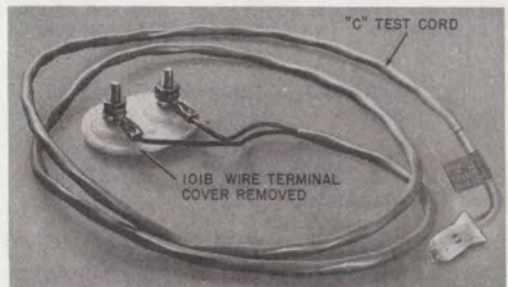

Fig. 7—C Test Cord and Terminal Block
**2.10** The C test cord (Fig. 7) is attached to a wall-mounted 101B2 wire terminal, located so the cord plug will reach all 88-type blocks, and is left in place for testing purposes. The cord is now made in 4- and 8-foot lengths to facilitate reaching all terminations in large distributing fields.